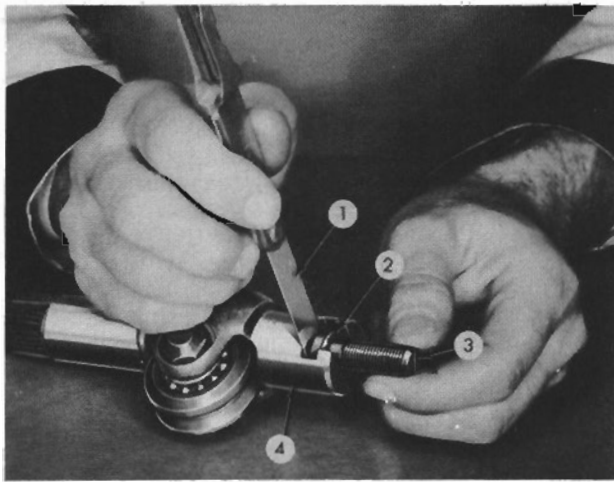

FIG. 31
Place the adjusting screw shim (2, Fig. 31) on the adjusting screw (3) and slide the head of the screw into the slot in the end of the cross shaft (4). Check the clearance between the head of the screw and the bottom of the slot with a feeler gage (1). The clearance should not exceed .002" (0,051 mm.). If the clearance is too great, replace the shim with the next thickest shim and check the clearance again. Adjusting screw shims are available in four thicknesses: .063" (1,60 mm.)—marked "3"; .065" (1,65 mm.)—marked "5"; .067" (1,70 mm.)—marked "7"; and .069" (1,75 mm.)—marked "9." When the clearance has been adjusted, start the cross shaft into the side cover. Then insert a screw driver through the adjusting screw hole in the side cover and screw the adjusting screw through the side cover as far as the cross shaft will go. Place a new gasket on the side cover and assemble the cross shaft and side cover to the housing. Make sure there is clearance between the worm and the roller, then install and tighten the side cover retaining screw and lock washers. Adjust the cross shaft so that there is no clearance between the roller and worm when the roller is on the high spot, then install the adjusting screw lock nut.
Remove the cross shaft and roller assembly from the side cover plate by screwing the adjusting screw through the cover. Scrape the old gasket off the cover plate and housing. Thoroughly clean and inspect all parts for wear. Remove the grease washer retainer and grease washer. Check the clearance between the head of the adjusting screw and the slot in the end of the cross shaft as illustrated in Fig. 31. If necessary, adjust this clearance as described under Saginaw Steering Gear—Reassembly. Install the adjusting screw and cross shaft assembly in the side cover, screwing the adjusting screw into the cover as far as it will go. Assemble the cross shaft assembly and side cover in the gear housing, using a new cover gasket. Install the cover retaining screws and tighten them. Install the pitman arm and tighten the retaining nut to 90 to 100 ft-lbs (12,4 to 13,8 kg-m) torque. Adjust the worm shaft end play and the clearance between the worm shaft and roller as described under Saginaw Steering Gear—Adjustment.